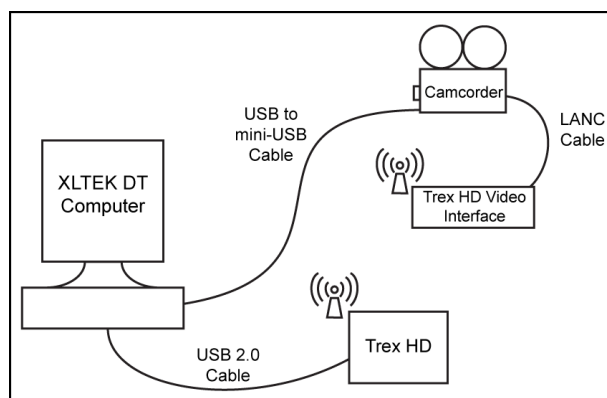

Figure 2: Setting up the Trex HD for a Video Study (No Patient Connected)
1. Connect the Trex HD and camcorder to the acquisition computer using the supplied (or XLTEK approved) cables. Use the supplied USB to mini-USB cable to connect the camcorder to the computer (see Figure 2).